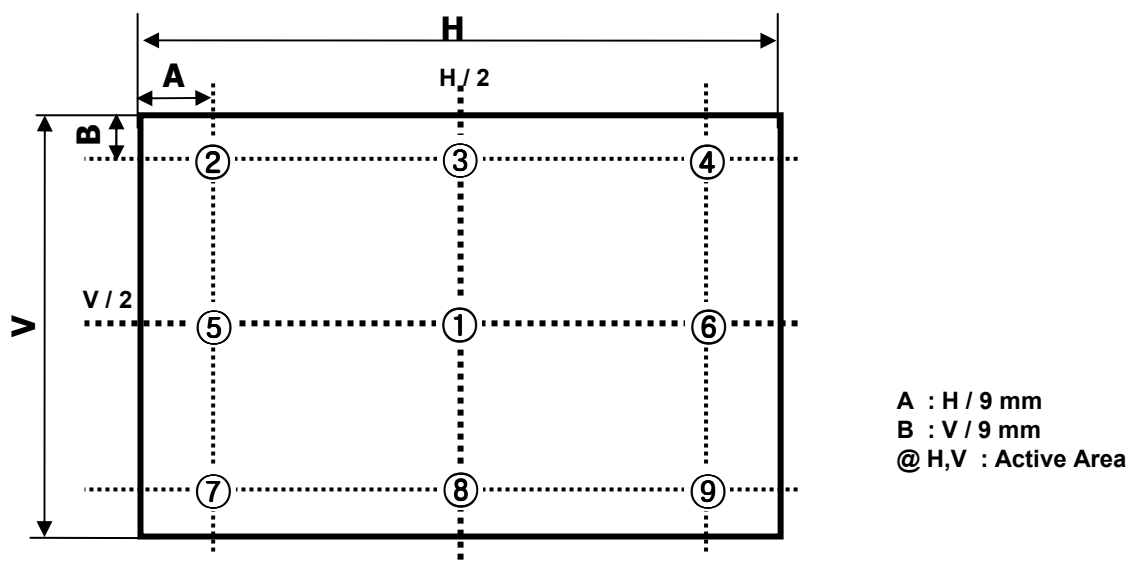

FIG. 2 9 Points for Luminance Measure
2. Surface luminance are determined after the unit has been 'ON' and 1 Hour after lighting the backlight in a dark environment at  $25 \pm 2^\circ\text{C}$ . Surface luminance is the luminance value at center 1-point across the LCD surface 50cm from the surface with all pixels displaying white. For more information see the FIG. 2.
For more information, see the FIG. 2.